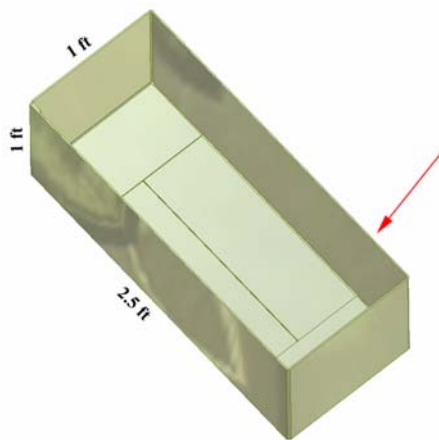

Figure 7: The 1' x 1' x 2.5' box.
1. The uncompressed volume for each mixture to be fabricated should be approximately 2.5 cubic feet (it should fill a 1' x 1' x 2.5' box to be created by each student team, as shown in *Figure 7*).
Before you start the 1st testing, use a mechanical or electronic scale to measure the mass of the 1' x 1' x 1' cardboard box (to be created by the instructor. See *Figure 7*); next, fill the box with insulating material mixture; next, measure the mass of the filled box and calculate the mass of the insulating material mixture